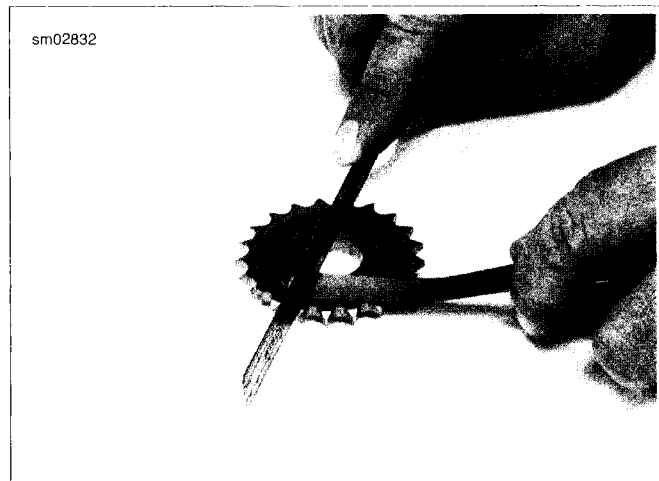

Figure 3-167. Sprocket Inspection
1. See Figure 3-167. Sprockets must be flat within 0.008 in. (0.203 mm).